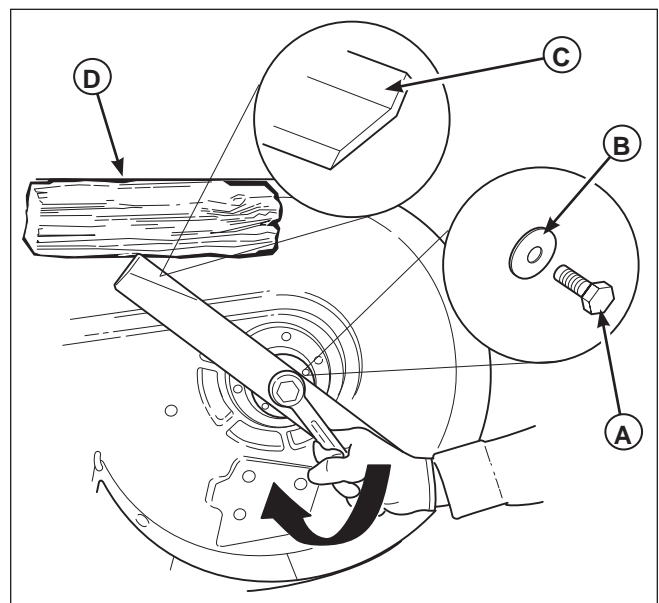

Figure 31. Tightening the Mower Blade for Installation
2. Reinstall each mower blade with the air lifts pointing up towards the mower deck as shown in Figure 31. Secure with the mower blade mounting bolt and flat washer (**A & B**, **Figure 31**) and torque to 70 ft. lbs (94 Nm).